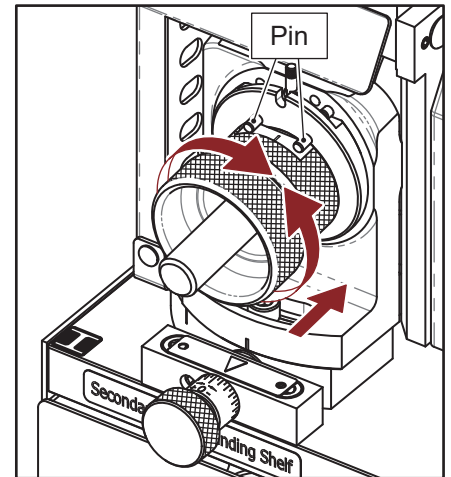

Fig. 11-1
1. 2 Flute Secondary Relief Grinding (I) (Fig. 11-1)